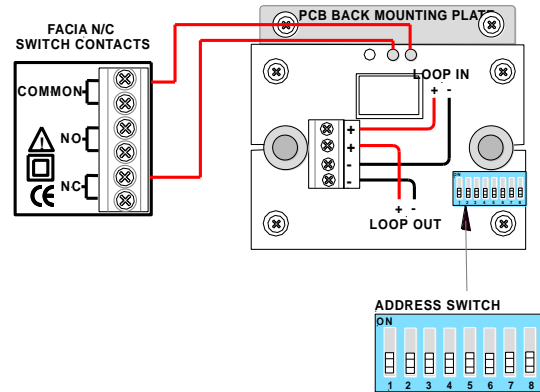

Figure 1: General Wiring diagram
4. Terminate cabling and MCP switch wiring as per Figure 1